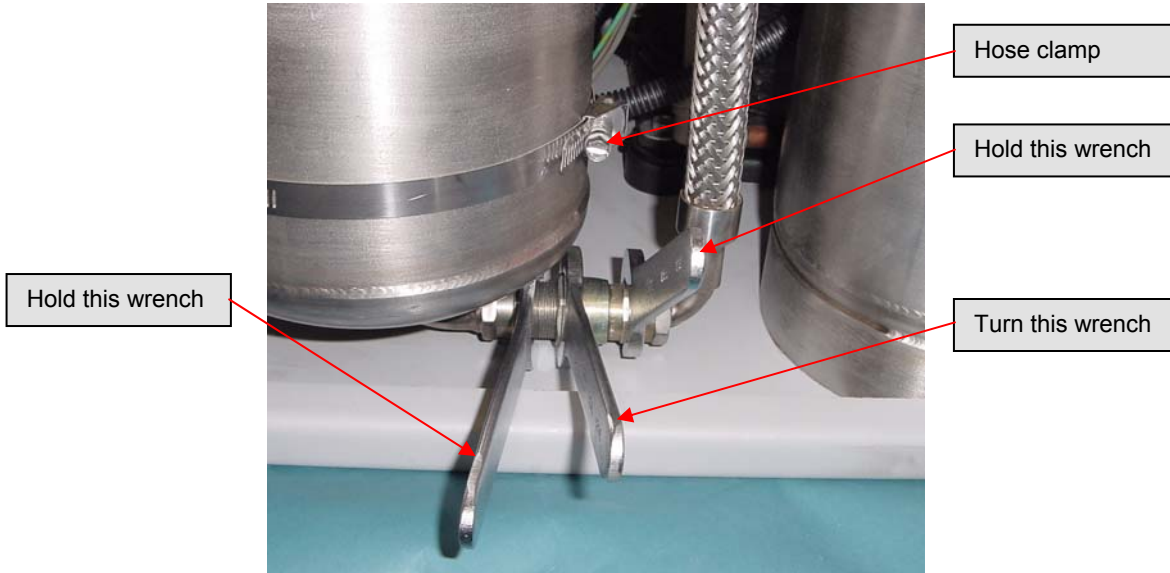

Figure 14: Disconnecting the Adsorber.
- 4) Using three wrenches disconnect the Aeroquip® coupling between the adsorber and the oil separator as shown in Figure 14.